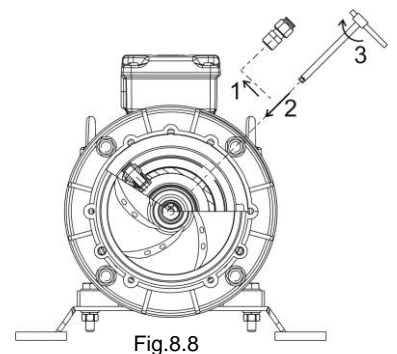

Fig.8.8
Should the seal installed be type MSFA , remove one of the two fluxing connection (pos. 56) to reach and screw with the key wrench the two hexagonal socket on the mechanical lock nut fixed seal (fig. 8.8)
- Complete the assembly positioning the O ring (pos. 8) and the volute casing (pos. 3)